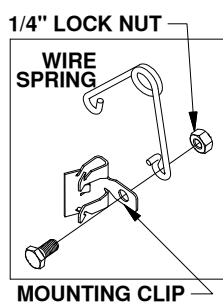

Figure C1:
1. **Assemble kit.** Locate the 1/4" cap screw and nut, along with the wire torsion spring and mounting clip. Pass the 1/4" cap screw through the mounting clip and the wire spring, as shown in Figure C1. Thread the 1/4" lock nut onto the 1/4" cap screw. Tighten the lock nut just enough that the spring will stay in place but will still be able to rotate around the bolt if needed.